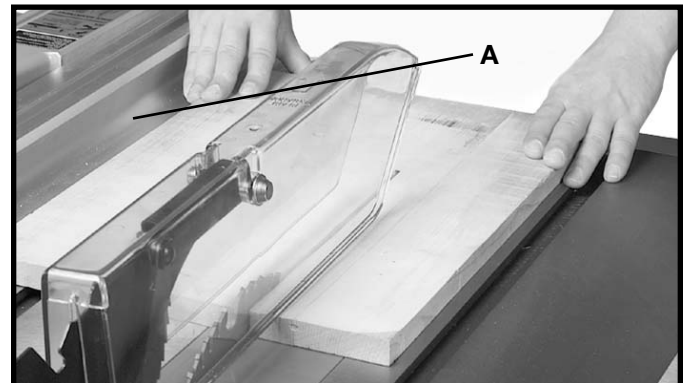

Fig. 74
Ripping is the operation of making a lengthwise cut through a board, as shown in Fig. 74, and the rip fence (A) is used to position and guide the work. One edge of the work rides against the rip fence while the flat side of the board rests on the table. Since the work is pushed along the fence, it must have a straight edge and make solid contact with the table. The saw blade guard must be used. The guard has anti-kickback fingers to prevent wood kickback, and a splitter to prevent the wood kerf from closing and binding the blade.
Never stand in the line of the saw cut when ripping. Hold the work with both hands and push it along the fence and into the saw blade as shown in Fig. 74. The work can then be fed through the saw blade with one or two hands. After the work is beyond the saw blade and anti-kickback fingers, the hand is removed from the work. When this is done the work will either stay on the table, tilt up slightly and be caught by the end of the rear guard or slide off the table to the floor. Alternately, the feed can continue to the end of the table, after which the work is lifted and brought along the outside edge of the fence. The cut-off stock remains on the table and is not touched with the hands until the saw blade is stopped, unless it is a large piece allowing safe removal. When ripping boards longer than three feet, it is recommended that a work support be used at the rear of the saw to keep the workpiece from falling off the saw table.